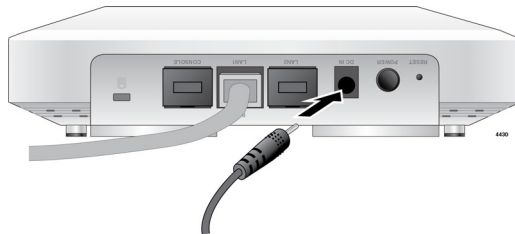

Figure 15. Connecting the External AC/DC Power Adapter Cable
2. Plug the DC plug of the Power Adapter into the DC-IN jack on the access point. Refer to Figure 15.